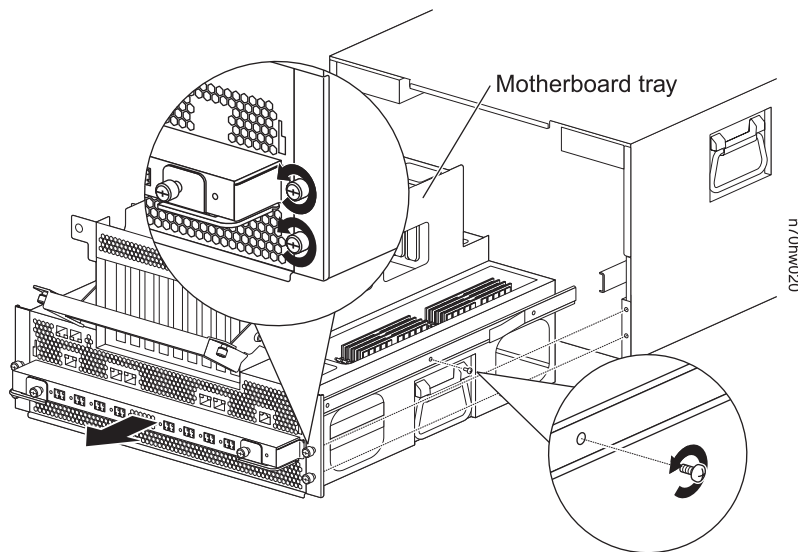

Figure 17. Removing the motherboard tray
- a. Loosen the six thumbscrews on the cam handle and chassis frame. Then open the system by pulling the cam handle downward and sliding the motherboard tray out of the chassis until it catches. See Figure 17.